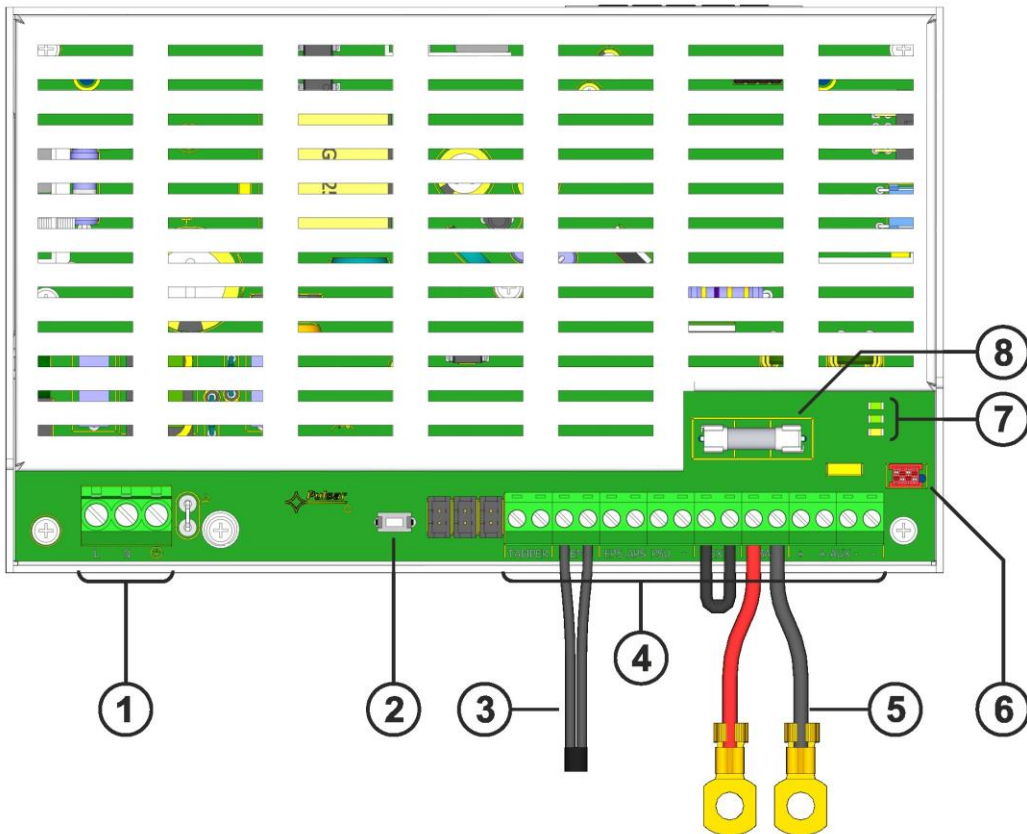

Fig. 2. View of power supply module.
Table 1. Elements of PSU PCB (Fig. 2).
①	PSU module (Tab. 1, Fig. 2)
②	Battery temperature sensor
③	Battery connectors; positive: BAT = red, negative: - BAT = black
④	A place for installation of additional communications modules
⑤	TAMPER; microswitch (contacts) of antisabotage protection (NC)
⑥	Fitting battery
⑦	Battery blocking plate
5. Screw terminals of temperature sensor to "Temp" terminals of PSU (figure 2, point 6). Attach sensor to battery, e.g. with adhesive tape. For the 27.6 V version, it is recommended to place sensor between batteries.